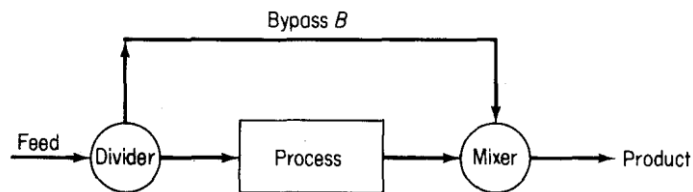

Figure 12.4 A process with a bypass stream.
- a. A bypass stream—a stream that skips one or more stages of the process and goes directly to another downstream stage (Figure 12.4).